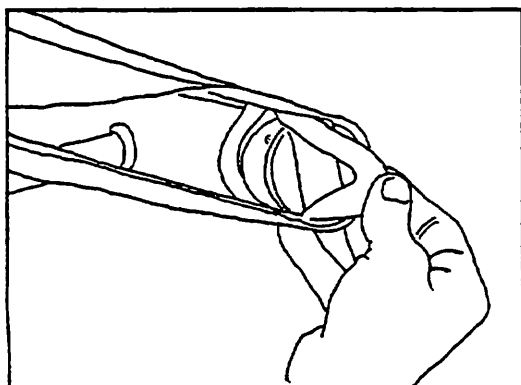

Figure 39
21) At this time preflight the sail mount webbing, making sure that it is fully engaged and square in the slot in the sail mount plug endcap. (Figure 39)